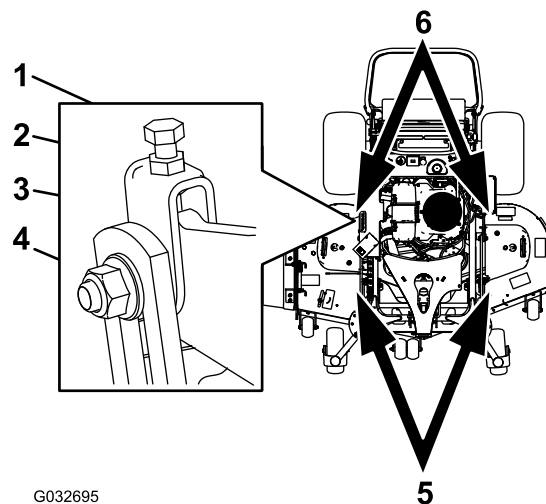

Figure 100
1. Loosen the jam nut and side bolt in the yokes that you want to adjust (Figure 100).
2. Rotate the top bolt of the yokes to adjust the height of the mower deck (Figure 100).
5. If the measurement is not correct, locate the front 2 yokes on the machine (Figure 100).